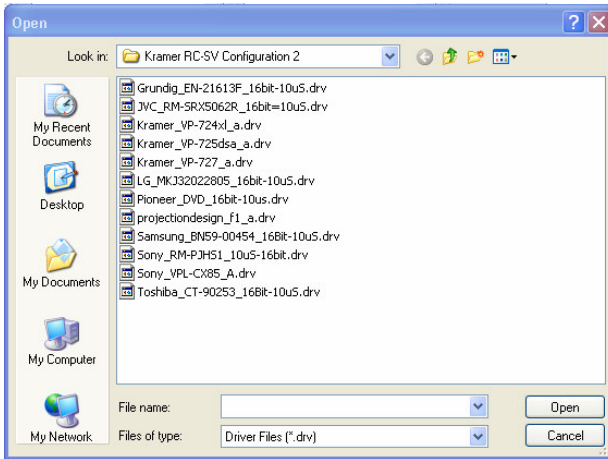
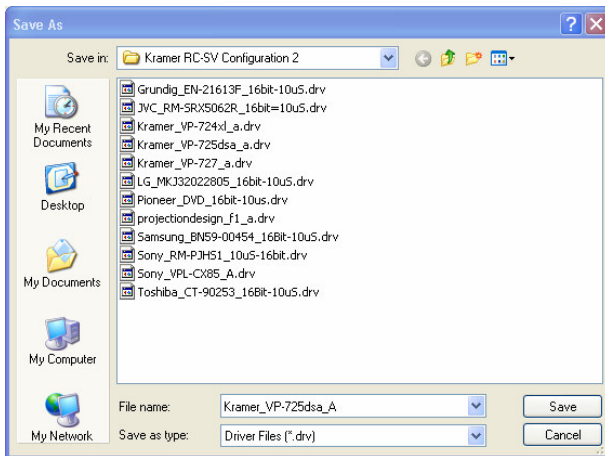

Figure 6: Importing a Kramer Driver File
Figure 7: Exporting a Kramer Driver File
- Import one or more drivers (Import Drivers..., see Figure 6), or export an existing driver (Export Driver..., see Figure 7)